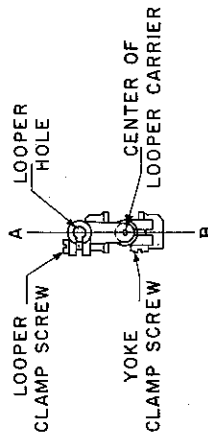
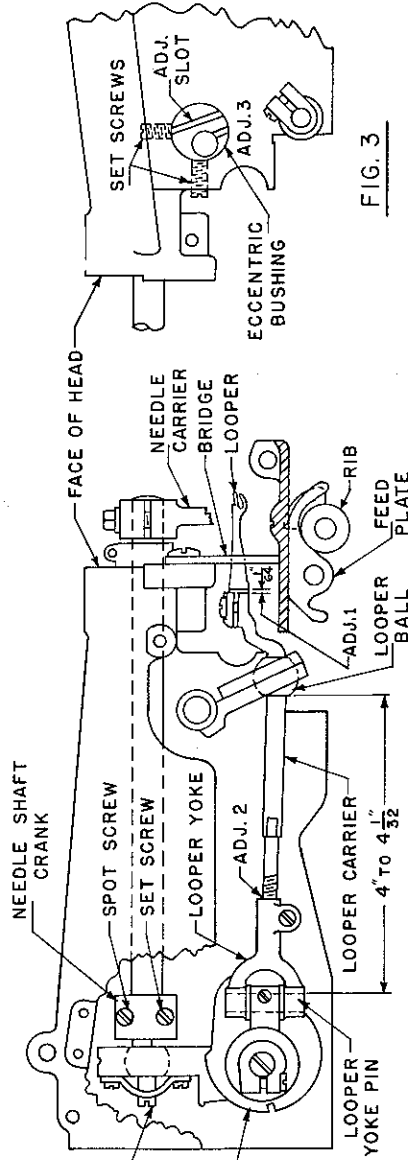
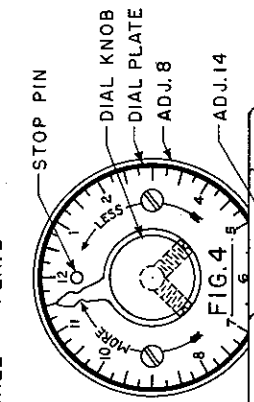
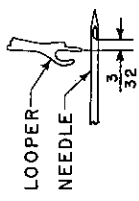

FIG. 1
FIG. 2
FIG. 5
FIG. 6
31. Continue to rotate hand wheel until the needle is at the end of needle stroke on the right hand side, see figure 5; at this position the point of the needle must be from $\frac{5}{8}$ " to $\frac{11}{16}$ " from the right hand side of the cloth opening on the presser foot. This setting is made by loosening the clamp screw holding the needle ball in the needle shaft crank, and turning the eccentric ball until the point of the needle is set correctly. See figures 2 and 5, adjustment 4 and 5.
32. The needle must be in contact with the needle guide when the needle point is from $\frac{1}{64}$ " to $\frac{1}{32}$ " from the left hand side of the cloth opening in the presser foot, Figure 6.
33. Adjust work apron so that left hand feed platten is flush with left hand side of cloth opening in presser foot. The adjustment is made by loosening two hexagon set screws in up right arm of the machine base, under the work apron holding the work apron shaft; slide the apron in correct position, and tighten the two set screws, Adjustment 9, Figure 5.
34. Set needle over highest part of rib, and adjust work apron to raise needle from the needle guide $1/64''$. The adjustment is made with the work apron stop screw. Adjustment 13, Figure 5. When set tighten lock nut.
38. Set feed platten, figure 5, so that they will depress $1/32''$ when in contact with the bottom of presser foot, after adjustment of foot and apron has been made. The setting is made by adjusting the feed platten carrier adjusting screws, and tighten lock nuts.
39. To set depth of feed, figure 6, adjustment 5, first turn hand wheel until needle point when approaching from the left is flush with left hand side of cloth opening in presser foot. Loosen the two feed clamp screws, and set feed so that a $.003''$ shim or newspaper will just be clamped between the top of feed plate, and the bottom of the presser foot. The feed points must be parallel with bottom of foot, tighten the feed clamp screws, and check clearance between feed and looper at all positions.
44. The Rib must be set to be $3/32''$ from the right hand side of the cloth opening in the presser foot. The adjustment is made by loosening the clamp screws of the Collars on each end of the rib shaft, see adjustment 10 and 11, figure 5. Set the rib in center of the cloth opening and tighten clamp screws. There must be no end play in the rib shaft.
46; Rotate hand wheel in clockwise direction until rib is at extreme end of its stroke with nose of rib under the needle. Loosen clamp screw in crank, adjustment 14, figure 5, and set rib by hand so that point of needle is $3/32''$ back from nose of rib, and tighten clamp screw.
48. The looper carrier and looper yoke are set before assembling these parts into the machine. Now, the looper ball is positively located on the shaft of the looper carrier by a spot screw. The looper carrier is assembled to the looper yoke, so that the distance from the edge of the looper yoke pin nearest the looper ball, to the side of the looper ball nearest the looper yoke will be 4 to $4-1/32$ (See Adjusting Chart, Figure 1, Adjustment 2.) The looper hole must be in line with center of looper carrier as shown in Figure 1.
49. The looper is mounted in the looper carrier assembly; allow $1/64''$ space between looper shoulder and end of looper carrier. (See Figure 2, Adjustment 1.) The Correct assembling of this unit must be understood in case for any reason it is necessary to remove or replace this assembly.
55. Before setting the looper, the looper carrier assembly must be in accordance with instructions for Figure 1, and Figure 2, and the needle setting must be as described in adjustments 4 and 5, Figures 2 and 5.
63. Loosen the looper yoke clamp screw, see Adjustment 2, Figure 2, and roll the looper until the long prong of the looper just brushes the scarf of the needle.
64. Check to see that point of the long prong of the looper just brushes the scarf of the needle, and is $3/32''$ from the inner end of the needle eye. See Figure 5.
65. Continue to rotate hand wheel in clockwise direction, until the short prong of the looper is at nearest point when passing chaining finger, not exceeding $1/32''$ - See Figure 6. If the short prong does not clear the chaining finger, or if the clearance is greater than $1/32''$, then the previous adjustments have not been correctly made, and these should be re-made.
71. Continue to rotate the hand wheel in a clockwise direction until the point of the long prong of the looper is over the center line of the needle. Check to see that the point of the long prong of the looper is $1/16''$ to $3/32''$ from the inner end of eye of the needle, and that the point of the long prong just brushes the scarf of the needle. In case the above conditions do not exist, the eye must be corrected -- this is done as described in the 56 to 65 paragraphs inclusive under the heading "ADJUSTING AND SETTING THE LOOPER". Be sure to roll the looper - Adjustment 2, Figure 2. Do not turn the looper eccentric bushing.
72. The machine, as far as the looper and needle are concerned is now ready to sew. Different materials or different threads may cause a slightly variation from the above adjustments, however, these adjustments will give the best results when padding or hemming the more heavy materials. When hemming silks and cotton, however, it may be advisable to set the point of the needle $1/16''$ - Figure 6, instead of $3/32''$, without changing the looper position by re-adjusting the needle ball stud, Adjustment 4, Figure 2.
73. The cloth retainer located in the cloth opening of the presser foot must at all times be adjusted as close to the needles as possible, and set relative to the ridge forming disc to firmly hold the work onto the disc while the needle is penetrating the material. If the work is carried along with the needle, no loop will form, resulting in missed stitches. See Figure 6, Adjustment 7. To adjust the retainer loosen set screw in foot and turn the cloth retainer eccentric bushing and turn bushing for setting retainer to the needle, and slide to the right or left for setting retainer to the rib, and tighten set screw in the presser foot.